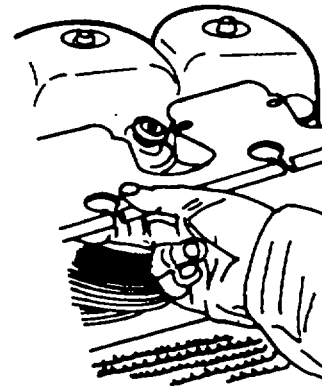

Figure 4-35. Upper Cover Plate
- x. Position the upper cover plate on the cylinder heads (figure 4-35).